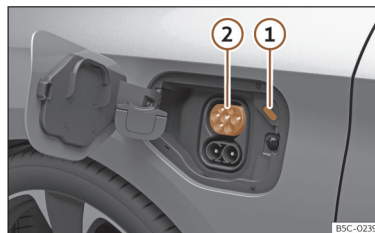

Fig. 59 Behind the battery charging cover on the front left-hand side: Charging socket
>>> Fig. 59
The LED (charging process indicator) of the charging socket ① flashes or flashes white >>> Fig. 59, >>> page 83.